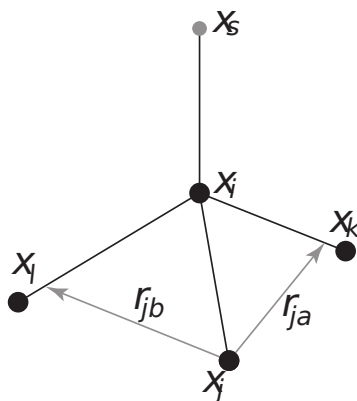

Fig. 5.35: The new 4fdn virtual site construction, which is stable even when all constructing atoms are in the same plane.
- From four atoms, with a fixed distance, see separate Fig. 5.35. This construction is a bit complex, in particular since the previous type (4fd) could be unstable which forced us to introduce a more elaborate construction: